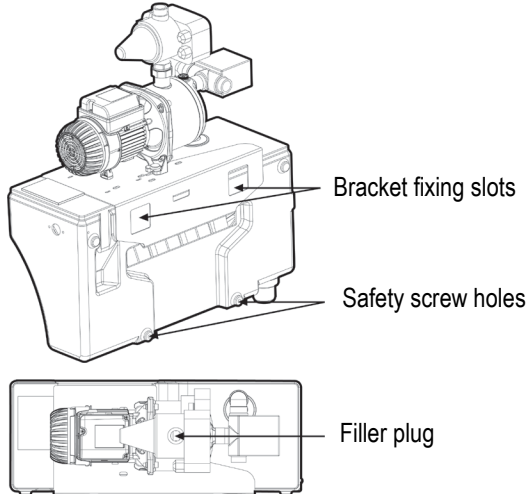

Figure 04
6. Fix the safety screws, see fig. 03 and fig. 04.
- Check that the float valve moves freely and that it is correctly positioned within the mains water tank (see fig .04). The float should be able to move freely.